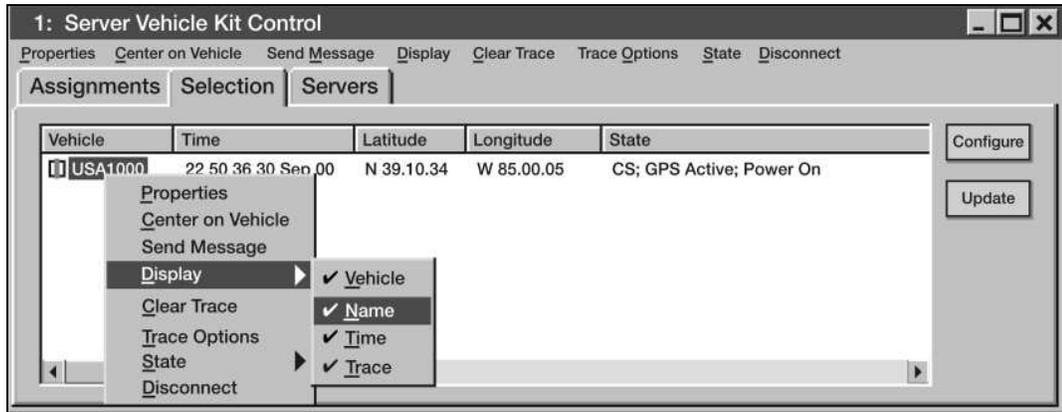

Figure 3-117. Display Vehicle Name
- f. Hide/Show an Individual vehicle's name (see Figure 3-117).
- (1) Right click on the map and get the pop up menu.
- (2) Choose Select Vehicle.
- (3) Click on the vehicle you wish to name/unname. The Server Vehicle Kit Control Window will pop up listing the vehicles.
- (4) To turn the name on, right click on the names in the Server Vehicle Kit Control window and select Display Name.